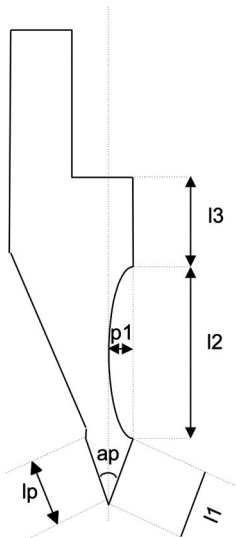

Figure 8. Punch drawing example
- Press **[ENTER]**; the next section will be drawn in automatic mode. The section to which the data refer will be marked, the cursor will move to Field 1 where the section length can be entered. The punch drawing will form by continuing to alternatively enter the lengths and angles. The more the entered measurements and angles correspond to reality, the more the drawing will be correct. Figure 8 Example of a punch to be drawn.